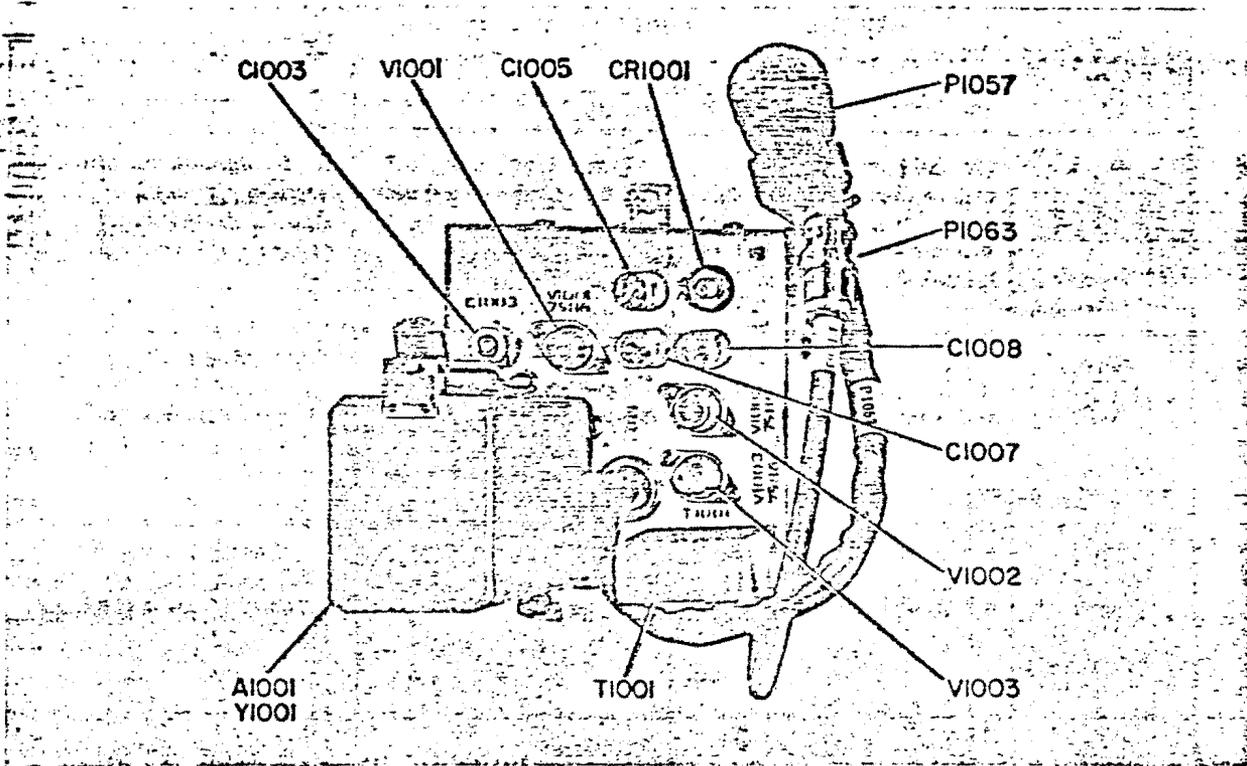
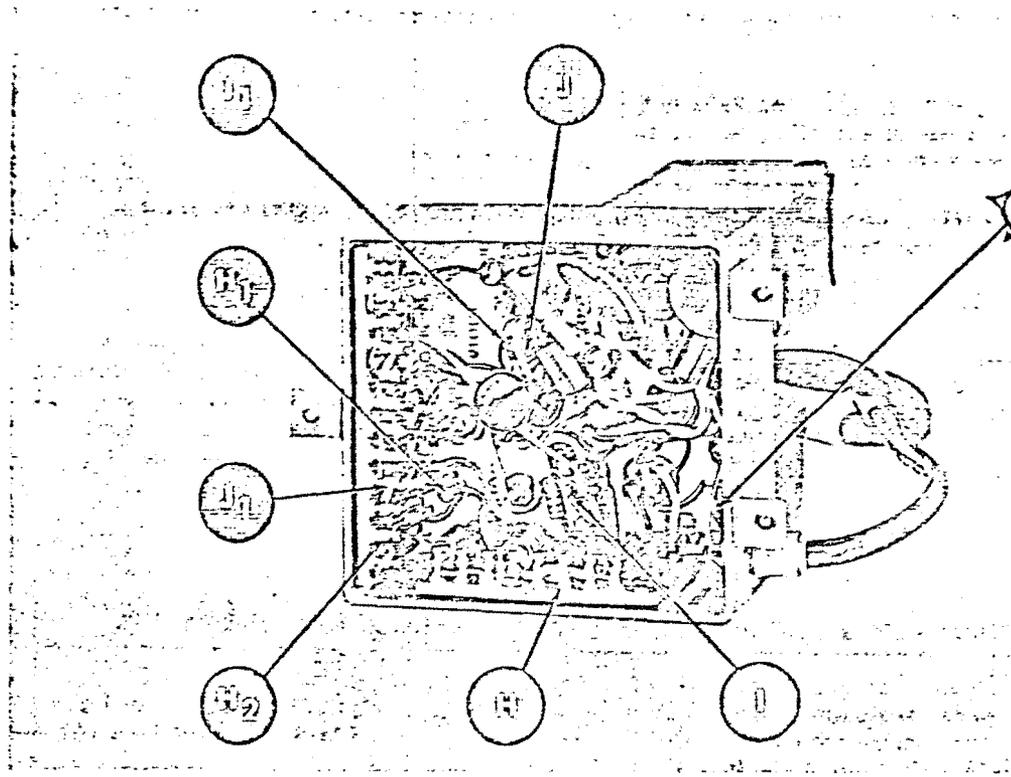

Figure 5-7. 100-Kc Oscillator-Amplifier, Top View, Location of Parts
Figure 5-9. 100-Kc Oscillator-Amplifier, Location of Test Points
a. GENERAL. - The 100-kc oscillator-amplifier section of Oscillator-Power Supply O-928/FLR is mounted on top of the common power supply chassis. An accurate 100-kc reference signal is supplied by this subassembly for the operation of one to five receivers. Faulty operation of the 100-kc oscillator-amplifier can affect the accuracy of receiver calibration or disable the receiver completely. Figure 5-6 is a functional schematic diagram; figures 5-7 and 5-8 show the location of parts, and figure 5-9 shows the location of test points.